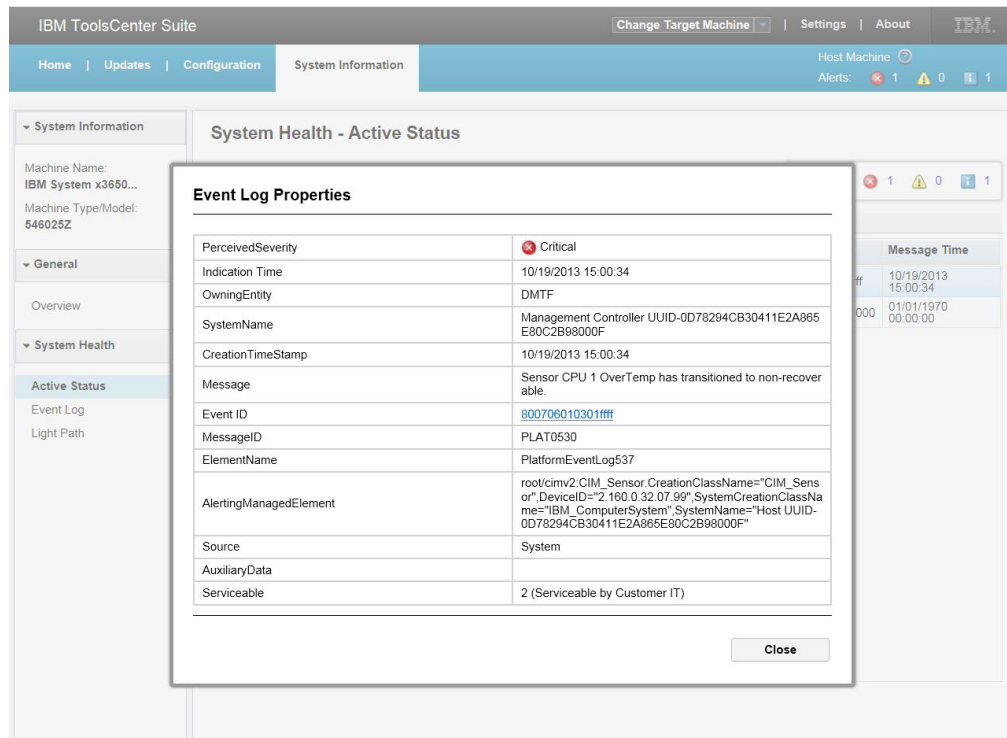

Figure 60. System Health - Active Status Property example
- In Active Status table, you can click on each row to view details for that row. See Figure 60 on page 68.